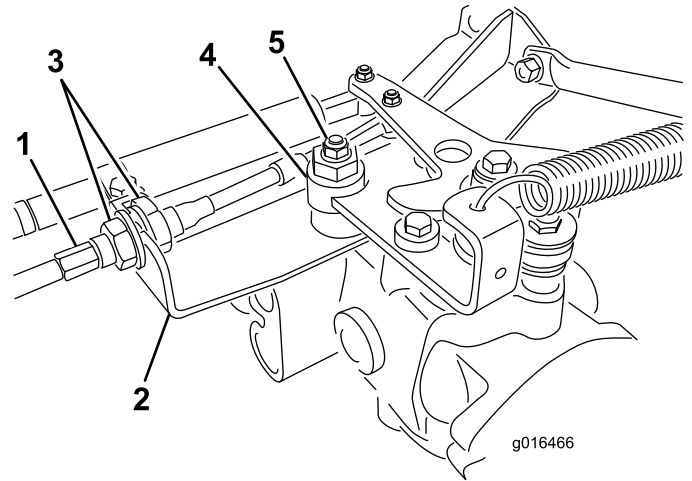

Figure 40
- A. Loosen both jam nuts securing the traction-control cable to the bulkhead on the hydrostat (Figure 40). Ensure that the jam nuts are loosened equally and sufficiently to allow adjustment.
Note: Loosen the nut securing the eccentric to the top of the hydrostat (Figure 40).
- E. When the wheel stops rotating, tighten the nut locking the eccentric and the adjustment (Figure 40).
- G. From each side of the bulkhead, tighten the locknuts evenly, securing the traction cable to the bulkhead (Figure 40). Do not twist the cable.